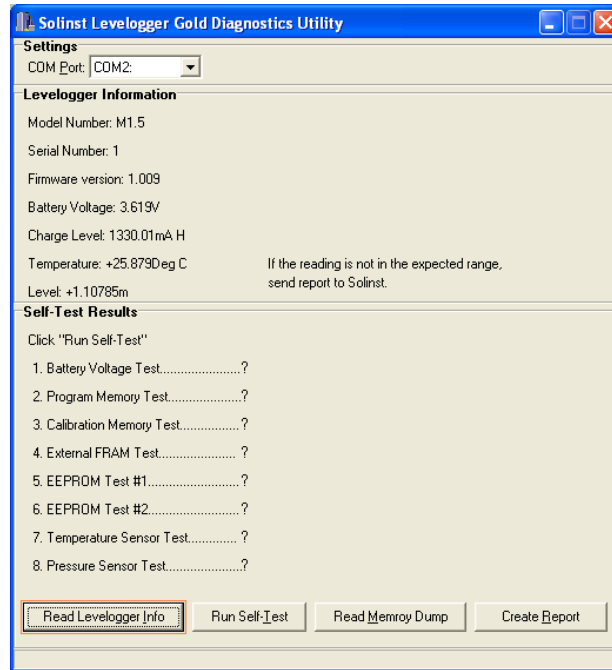

Figure 11-1 Read Logger Info
5. If a communication error occurs and is indicated in the Levelogger Information Window (Fig.11-1) either before the “Verified Program Checksum” message or after the “Program Information Section”, then restart the upgrade process.